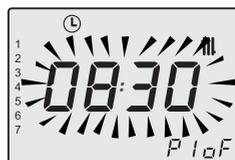

Fig. 2.14
Press key 12 followed by key 16 to program the first ignition period (P1 on), confirm by pressing key 12, the subsequent off time (P1 off) is already prompted with an additional 15 minutes (minimum programming interval); to modify this, press key 12 followed by key 16 and confirm by pressing key 12. Repeat this sequence for P2 on and P2 off, ..., P4 on and P4 off, for every day or group of days selected (Fig. 2.14).